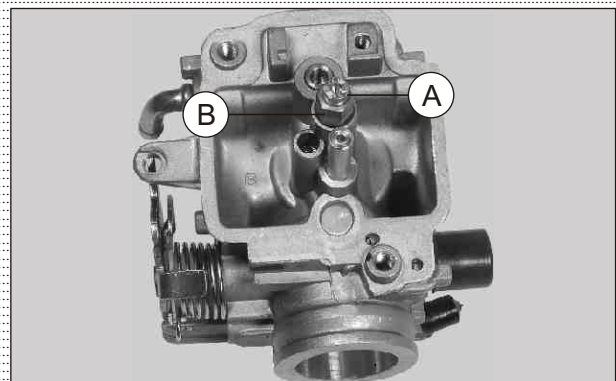

Fig. 4.26
- Remove main jet (A). (Fig. 4.26)
- Remove jet holder along with the 'O' ring (B). (Fig. 4.26)